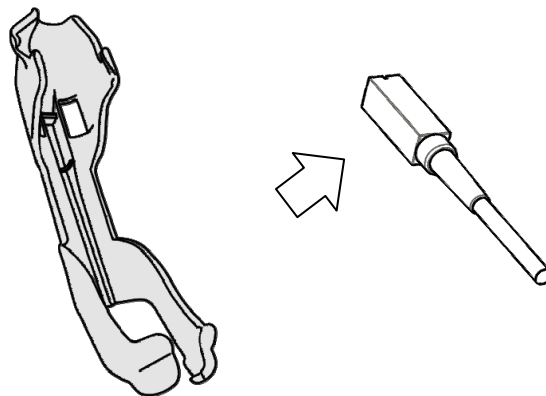

Fig.9 How to release the Magnetic sensor from the Magnetic sensor attachment
- 2) Detach the Magnetic sensor from the Magnetic sensor attachment as shown in Fig.9.